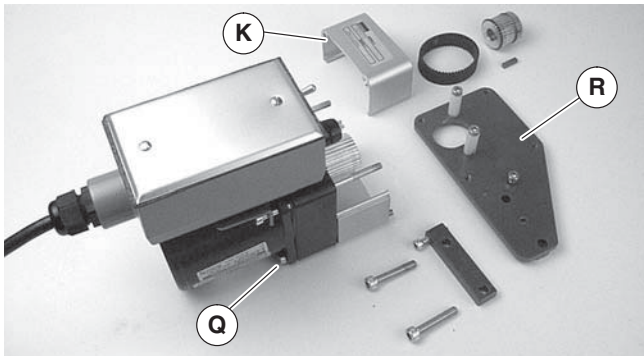

Figure 4
3. Loosen four (4) screws (Figure 4, item Q). Detach mounting bracket (R).